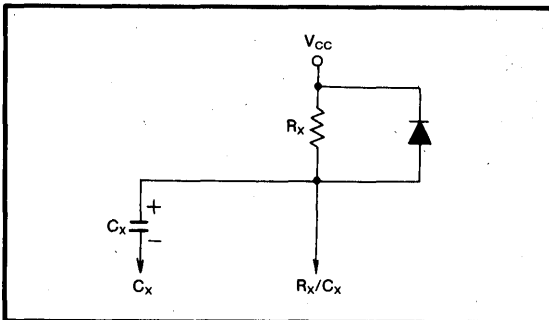
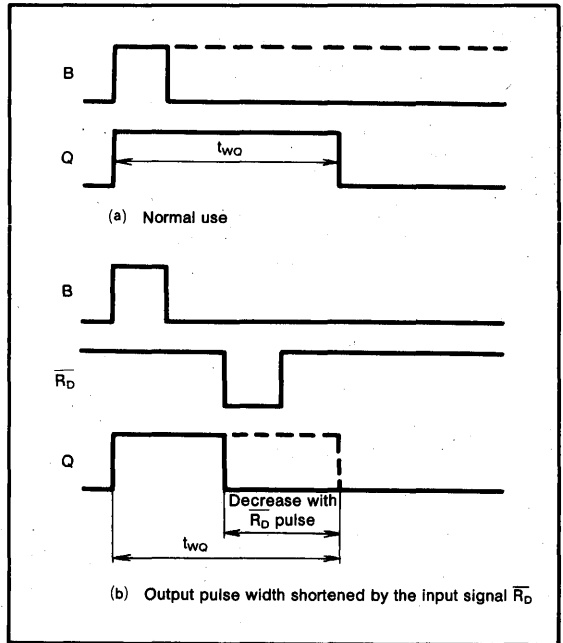

Fig.1 Connection of external resistor  $R_x$  and capacitor  $C_x$  to timing terminals  $R_x/C_x$  and  $C_x$
Fig.2 Output pulse width control
When external resistor  $R_X$  and electrostatic capacitor  $C_X$  are connected to timing terminals  $R_X/C_X$  and  $C_X$  as shown in Fig. 1, and trigger pulses are applied at input  $A$  or  $B$ , positive pulses will appear at  $Q$  and negative pulses, at  $\bar{Q}$ . (Fig.2-(a)) The pulse width  $t_{WQ}$  is set by  $R_X$  and  $C_X$ . The trigger is applied when  $A$  changes from high-level to low-level or when  $B$  changes from low-level to high-level.
When direct reset input  $\bar{R}_D$  is low,  $Q$  will be reset low and  $\bar{Q}$  will be reset high, irrespective of the output state, allowing output pulses to be narrower by  $\bar{R}_D$ . (Fig.2-(b)). When  $\bar{R}_D$  changes from low-level to high-level while  $A$  is low and  $B$  is high, the trigger is applied and  $Q$  and  $\bar{Q}$  change state.
Resistor  $R_x$  and capacitor  $C_x$  are connected to timing terminals  $R_x/C_x$  and  $C_x$ , as shown in Fig. 1. If  $C_x$  is polar, the positive lead should be connected to the  $R_x/C_x$  side, and the negative lead to the  $C_x$  side. A diode is connected to prevent latchup.
Fig.2-(a) is the directions as ordinary monostable multivibrator operation and the output pulse width  $t_{wQ}$  can be set by using the formula and figure shown in section 2 above.
As shown in Fig.2-(b), the output pulse which has been generated by the trigger signal can be terminated with the  $\overline{R_D}$  signal and it is possible to shorten its width as required.
- 4-4 Capacitor discharge when the power is turned off may cause thermal breakdown or latchup, so a diode should be connected as shown in Fig. 1.